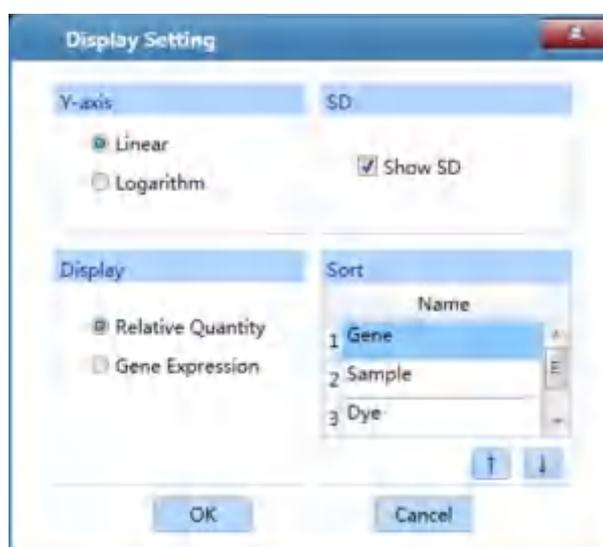

Figure D-10.2. Rel Quant interface - Display Setting window
① **Reminding:** the application software set the relative quantity ratio of the reference sample to 1 by default.
- <  **Display Setting** >: user can click <  **Display Setting** > icon and the application software will automatically pop up the display setting window, as shown in figure D-10.2.